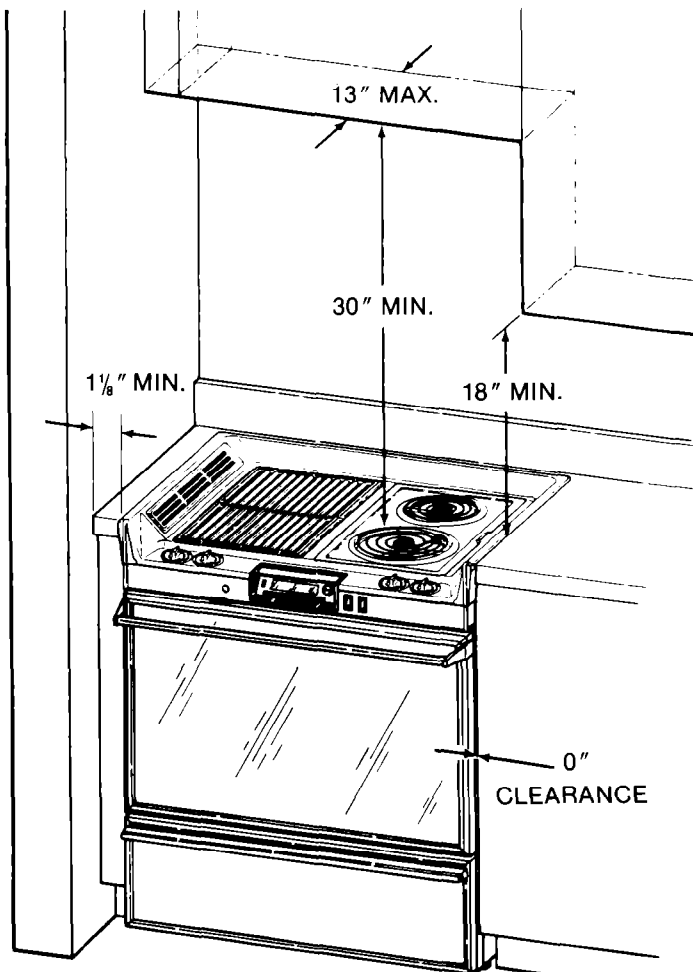

Fig. 1
- Consider all required minimum dimensions and recommended location for the electrical outlet (Figures 1 and 2).